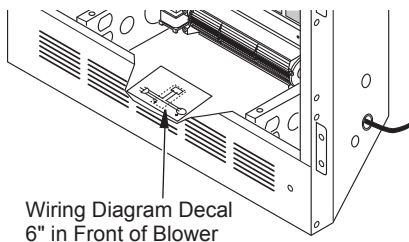

Figure 29 - Location of Wiring Diagram Decal (Model May Vary From Illustration)
10. Peel off backing paper and stick supplied wiring diagram decal on firebox bottom approximately 12" in front of blower (see Figure 29).
11. Peel off backing paper and stick supplied wiring diagram decal on firebox bottom approximately 12" in front of blower (see Figure 29, page 20).